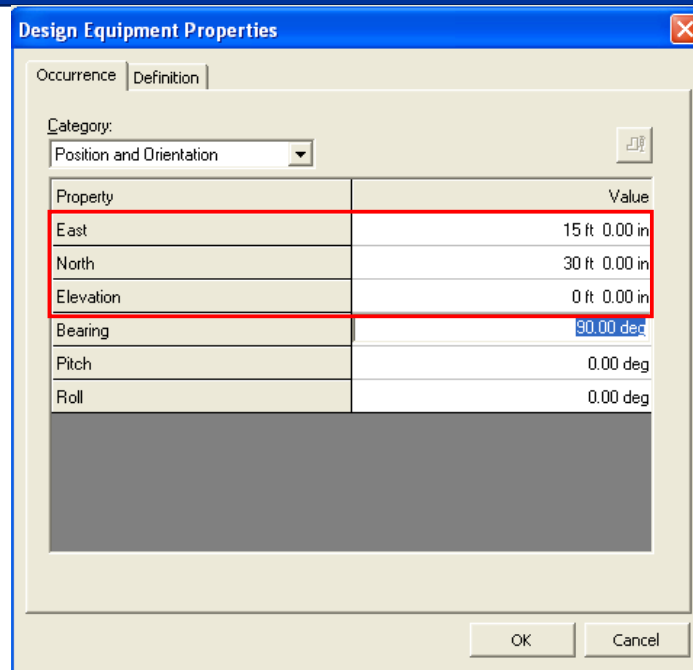

Figure 7: Position and Orientation Category in the Design Equipment Properties Dialog Box
34. Key in the following specifications on the **Position and Orientation Category** in the **Design Equipment Properties** dialog box (Refer to Figure 7):